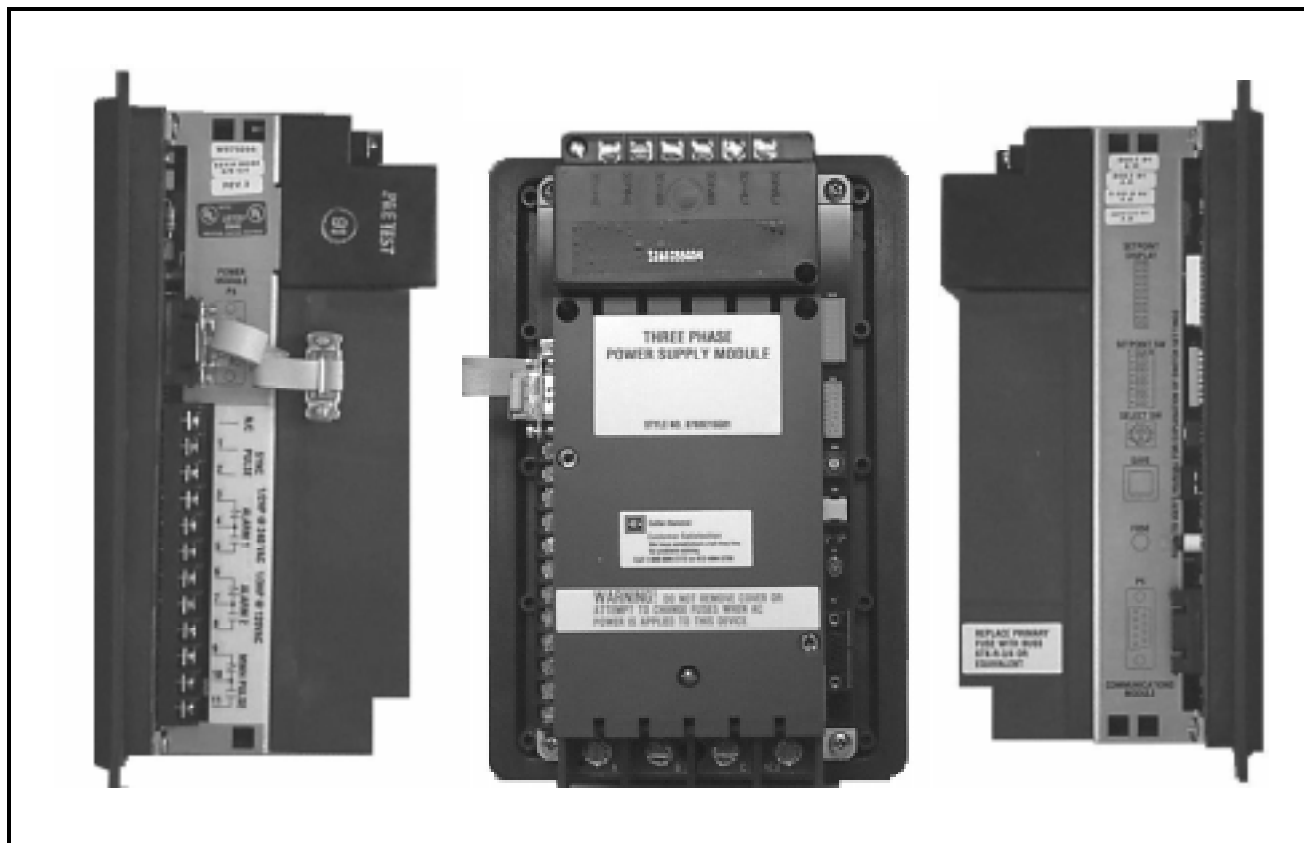

Figure 2.2 Rear Access Area of Chassis
6. A fuse, internal to the power module, is located in series with each of the 3 incoming AC lines. The fuses are 3/4 amp, 600 volt, 200kA interrupting rating. These fuses are internal to the power module. You can access them by removing the three screws holding the cover in place (see Figures 2.2 and 2.3).